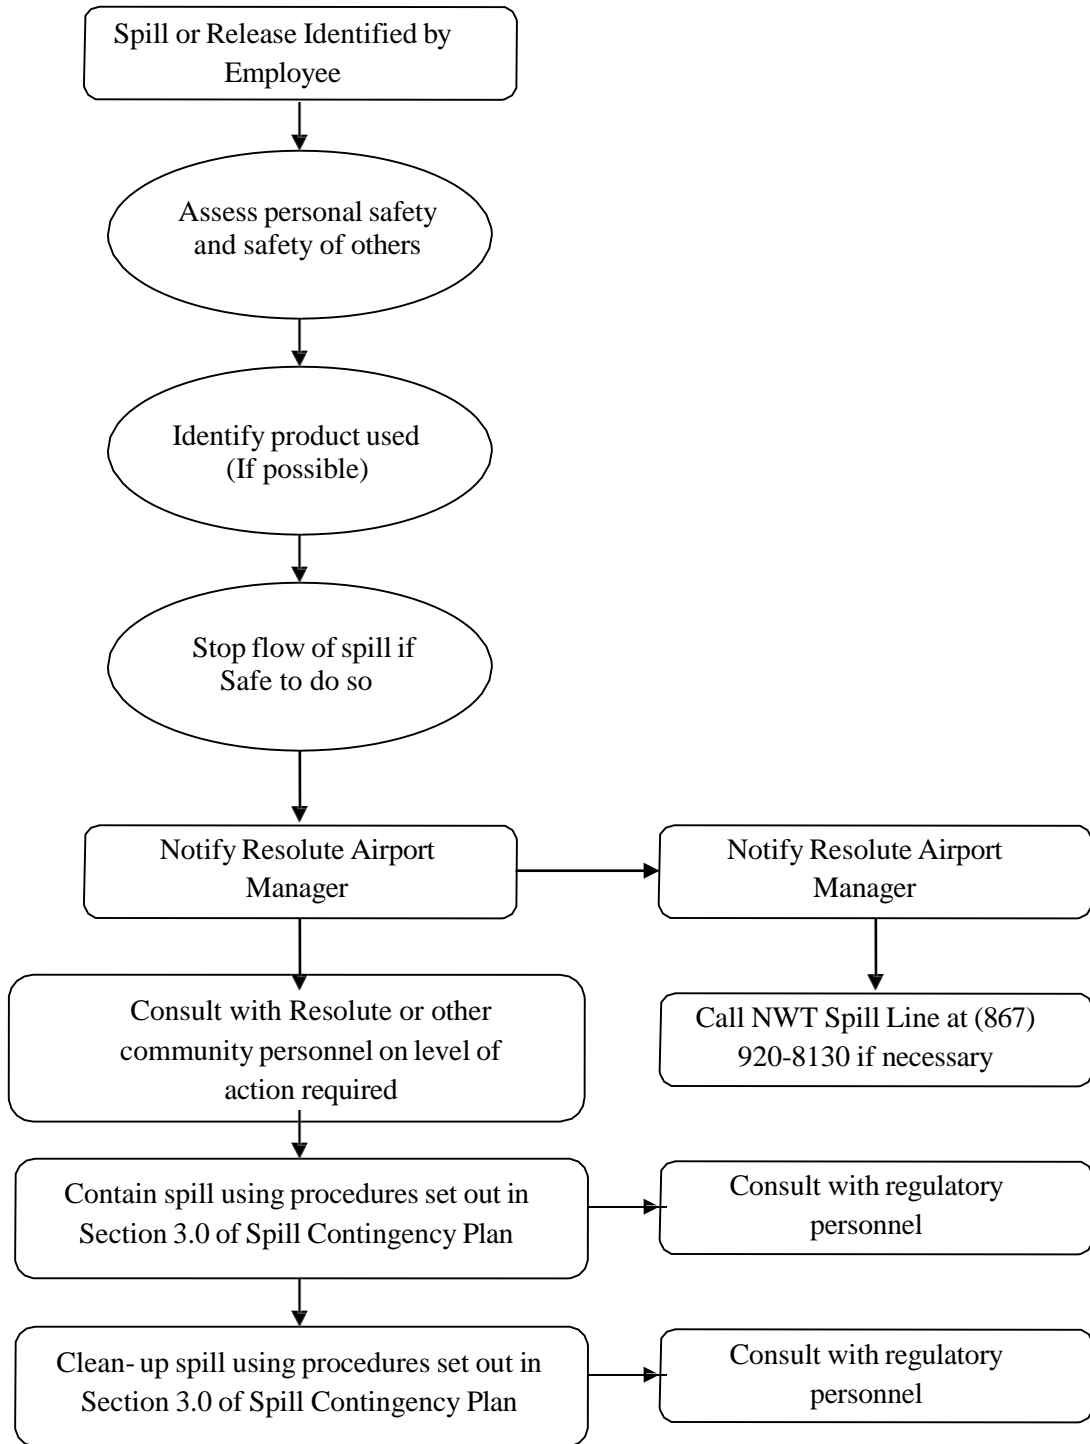

Figure 5: Flowchart of Spill Communication Lines
- Contact GN-TIN Resolute Airport Manager/Director, as per flowchart in **Figure 5**.